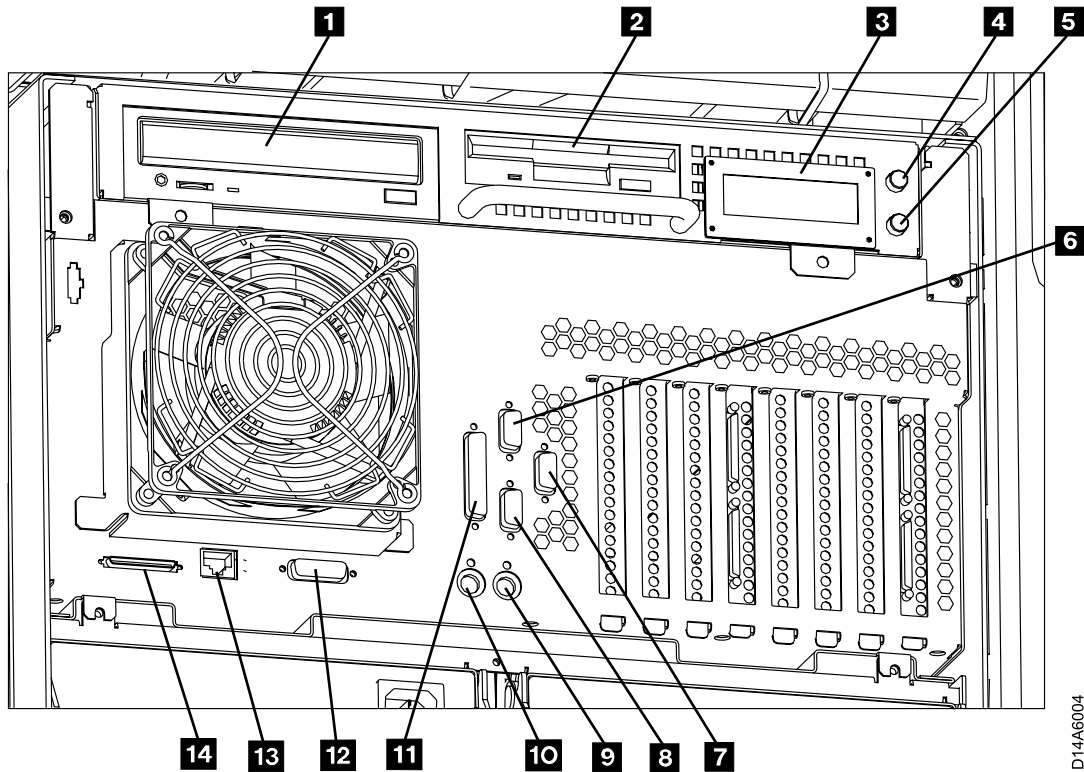

Figure 18. A60 Controller Controls and Connections
- \_\_\_ Step 3. Power on the A60 Controller with the power on switch, refer to Figure 18 on page 185 **4**
- \_\_\_ Step 3. Refer to Figure 18 on page 185, **8** and attach the RS-422 in the connector shown
- \_\_\_ Step 4. If this subsystem is using a LAN connection, refer to Figure 18 on page 185, **13** and attach the LAN in the connector shown